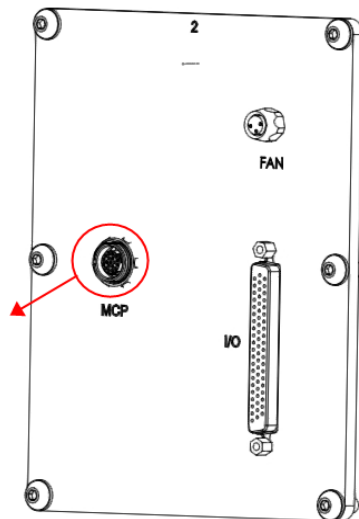

Figure 4-11 IO free distribution PCBA disassembly diagram
Step 5 Use a special tool to loosen the nuts and remove the IO free distribution PCBA. The screw positions are shown in Figure 4-11.